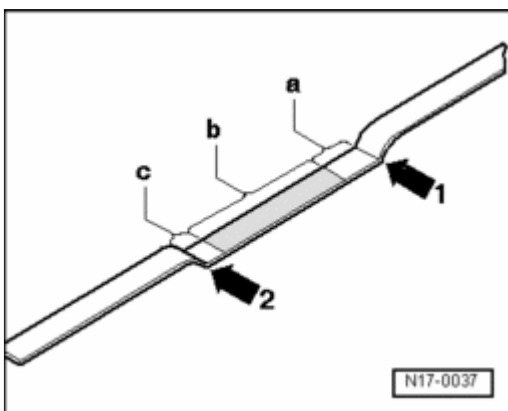

Fig. 160: Dipstick Marks
- Markings. See **Fig. 160** .